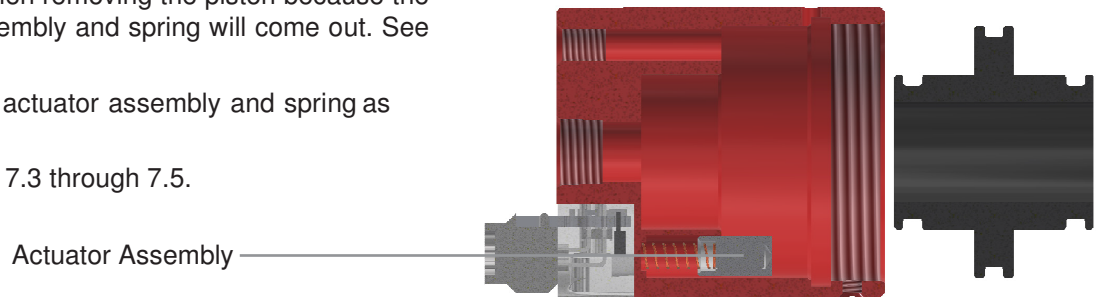

Figure 9. FE Section View
- 8.2. Take care when removing the piston because the actuator assembly and spring will come out. See Figure 9.